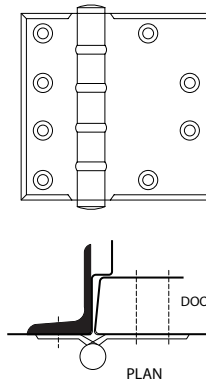

FIGURE 1d
4. The Full Surface Butt Hinge, Figure 1d, has two leaves of differing widths, one surface-mounted on the door face, the other surface mounted on the frame face.